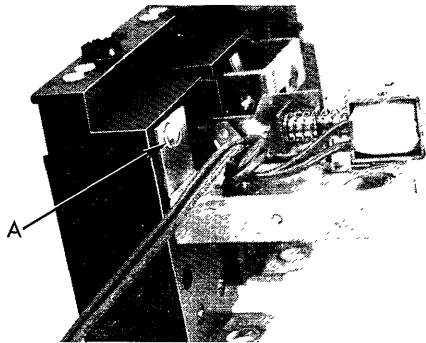

Figure 1
For Type TK — Figure 1
4. Holding solenoid plunger seated, remove mounting screw A, Figure 1, and lift complete device from breaker base.